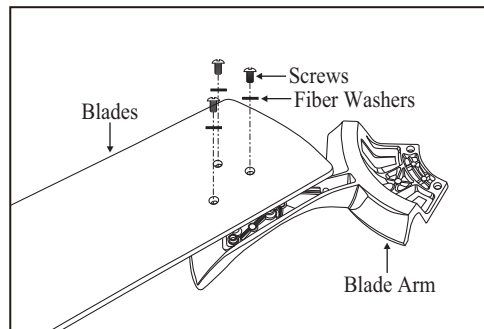

Figure 11
1. Attach blades to blade arms using three screws with fiber washers (Fig. 11). Start a screw into the blade arm, do not tighten. Repeat for the 2 remaining screws and washers.